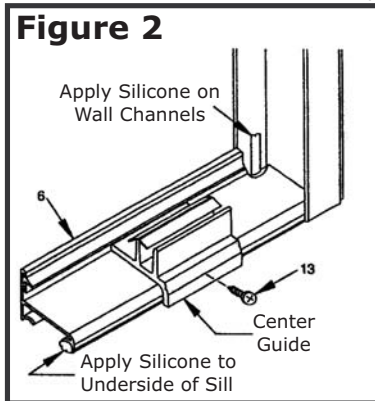

Figure 2
1. Set wall jamb (1) in place on wall, centering bottom of jamb on rim of tub. Hold plumb and mark walls for screw holes.
2. Remove and drill 3/16" diameter holes in walls (use a carbide tipped drill bit for tile walls). Insert plastic wall anchors (2) into holes. Silicone where the wall meets the rim of the tub to seal the bottom jamb. Set jamb in place and secure to wall with #8 x 1 1/2" screws (3). Secure Bottom Bumper (4a) on showerhead / Inside side with bottom wall jamb screw (3).
3. Cut bottom sill (6) 7/16" smaller than slider opening. Run a bead of silicone full length to the underside of sill (6) and apply silicone to inside of jamb where jamb meets tub. On inside of jamb, run a 1/4" bead of silicone 1 1/4" up the outside leg of wall jamb (See Figure 2). Set sill